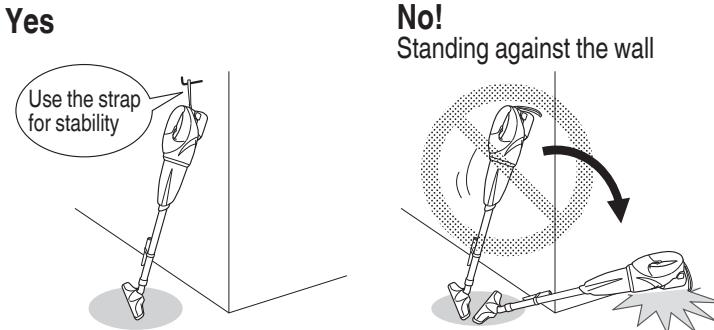

Fig. 20
- Do not stand the appliance against a wall without using the strap to fix it in place. (**Fig. 20**)